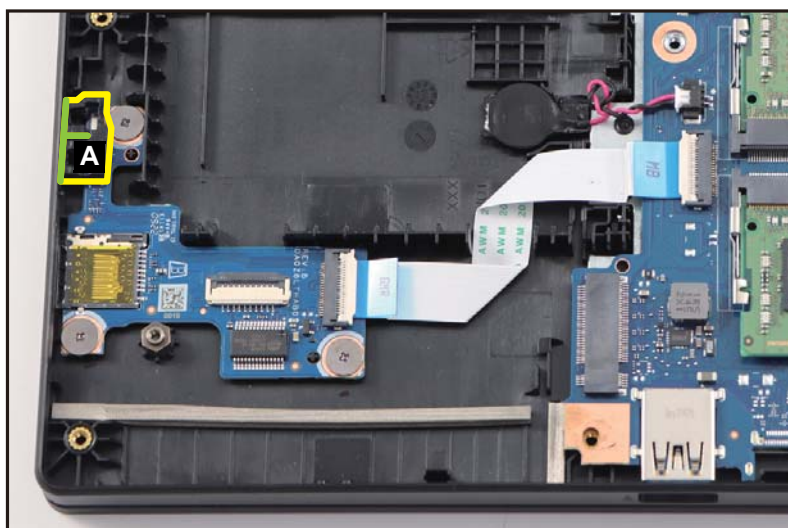

Figure 1-35. Card Reader Board Removal
1. Detach the sponge (A) from the card reader board (Figure 1-35).